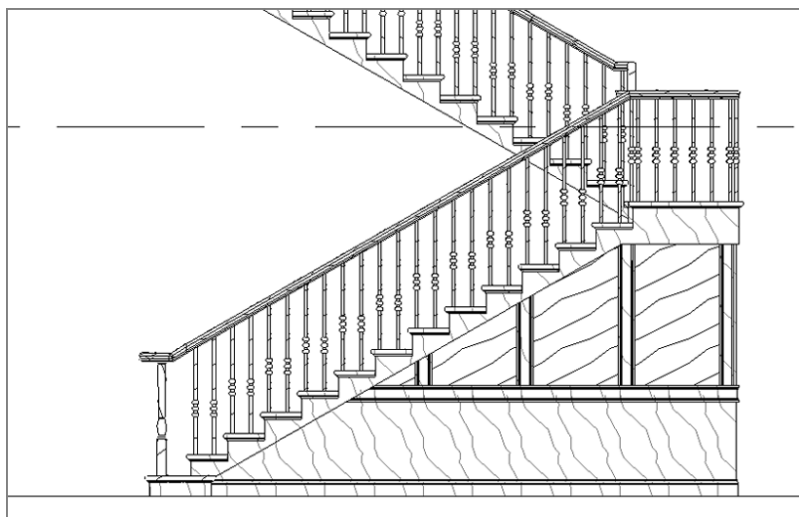

FIGURE 16.20: The finished south wall of the stairs
17. Repeat the procedure so that your elevation looks like Figure 16.20.